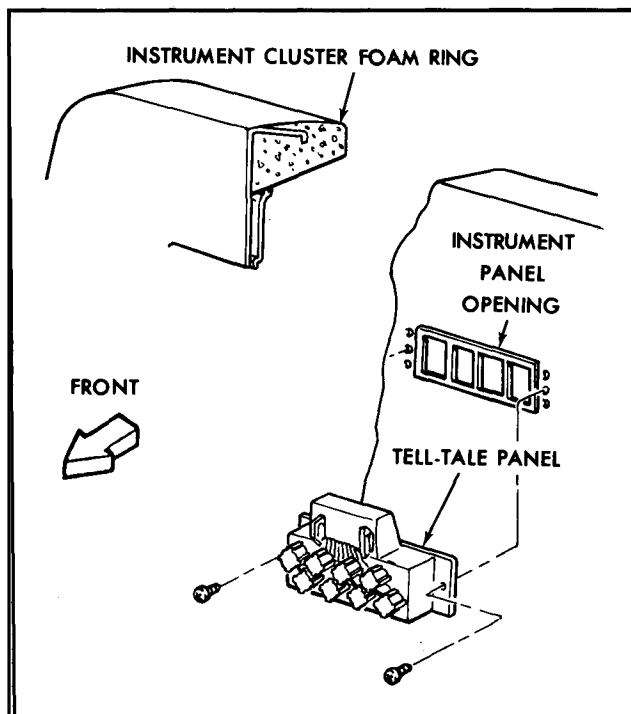

Figure 6—Tell-Tale Light Panel
4. Remove the (2) panel retaining screws and remove the panel (See figure 6).